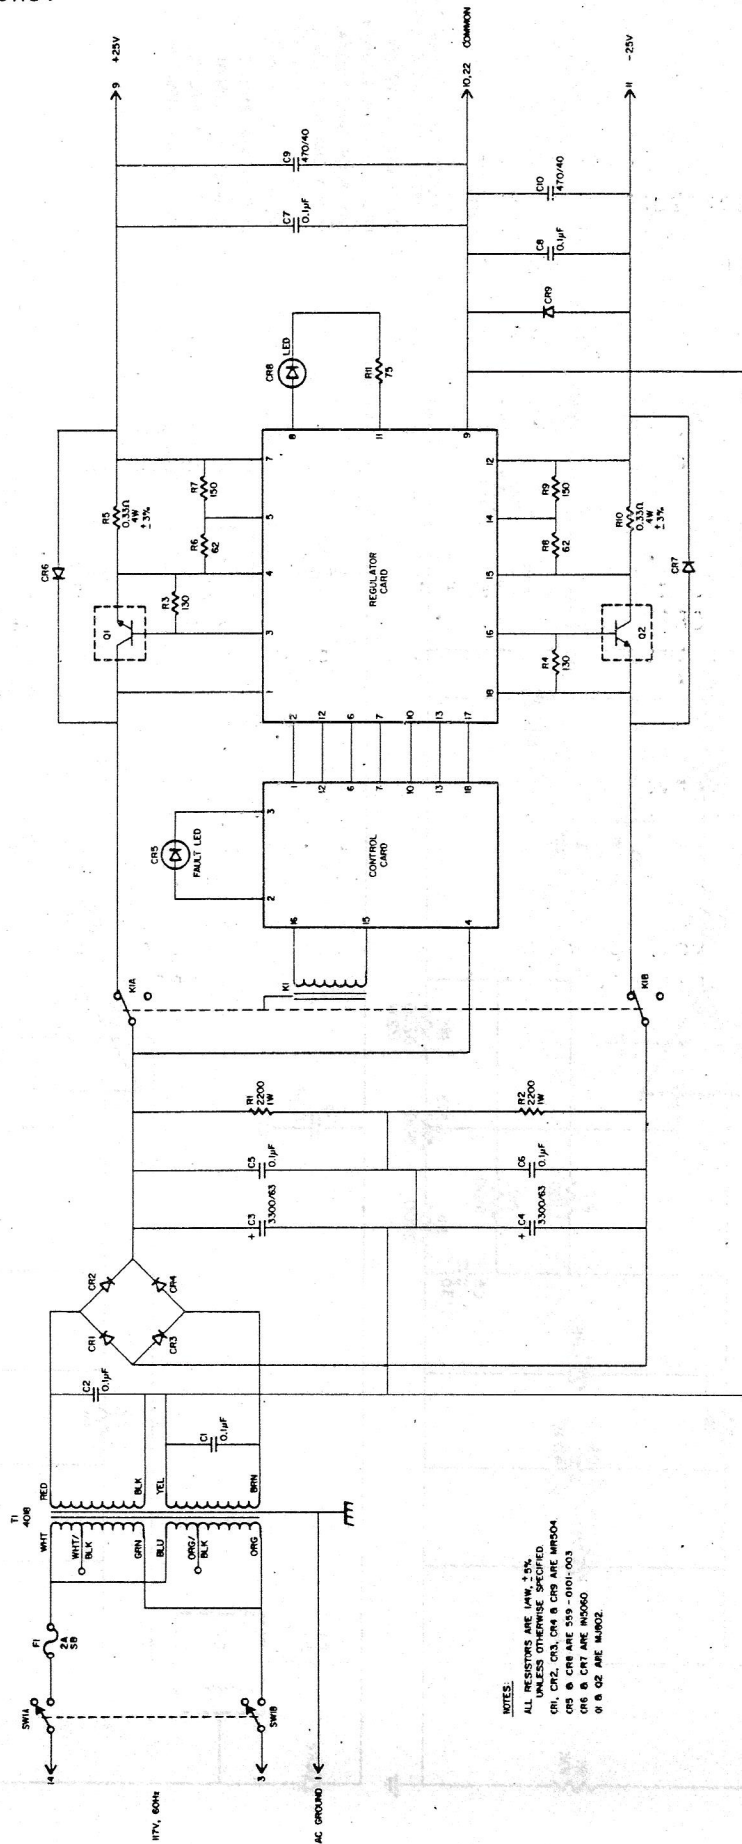

Figure 4-1. Schematic PS855
- 4.01 The schematic of the PS855 is shown in Figures 4-1,4-2,and 4-3. Components mounted on the main chassis are shown in Figure 4-1, Figures 4-2 and 4-3 showing the components on the regulator and control cards, respectively. Refer to these figures for identification of components mentioned in the following description.